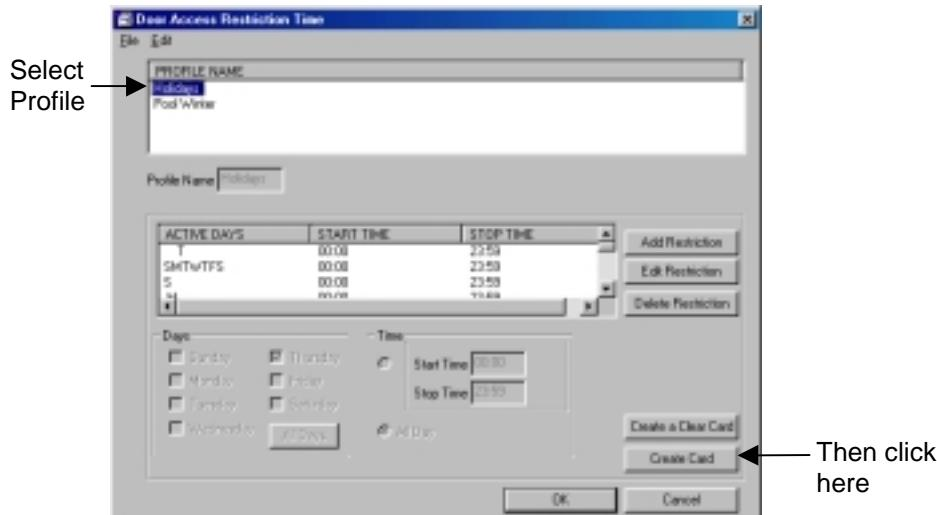

Figure 11.56 Creating a Reader Restriction Time Card
2. In the Door Access Restriction Time Window select a profile to use (Figure 11.56).
3. Click the Create Card Button (Figure 11.56).